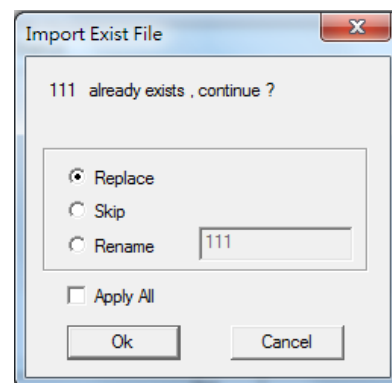

Fig. 1.1.75
1. Click on “File”→“Configuration Import/Export” to bring out dialog seen as fig. 1.1.75.